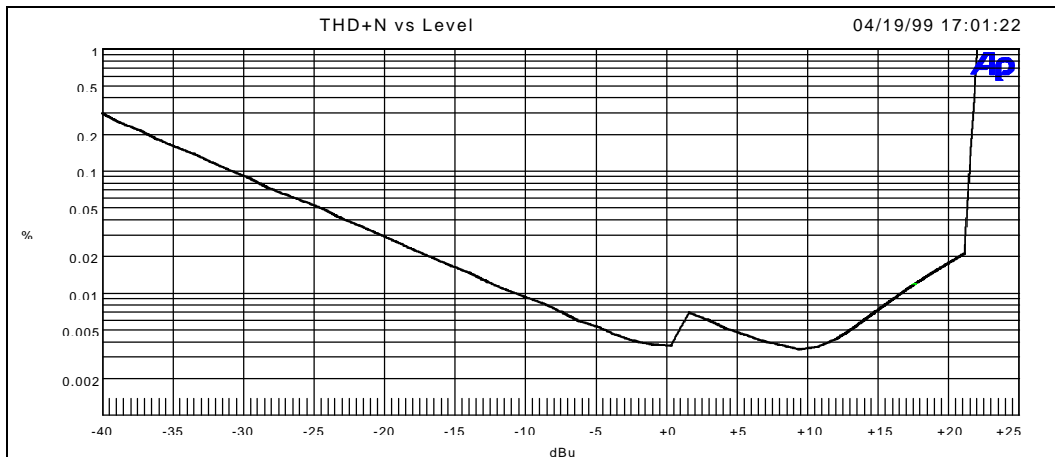
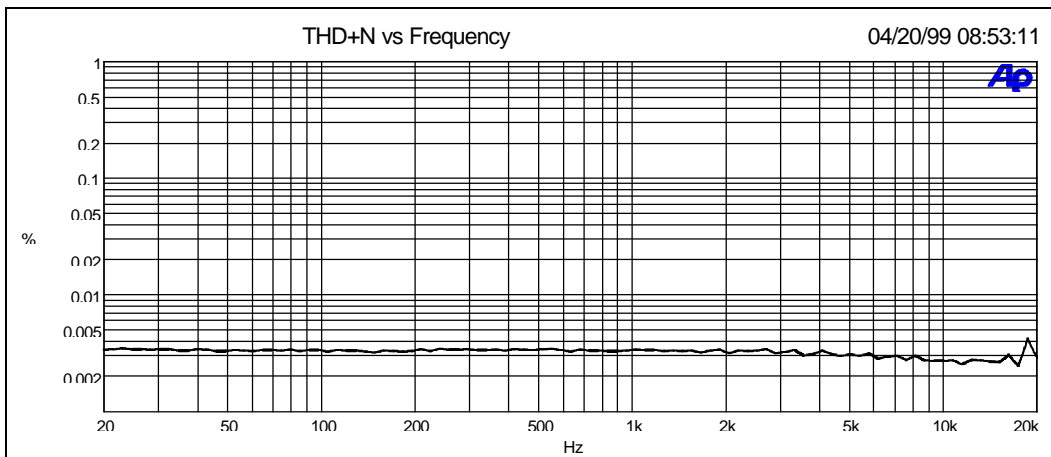

Figure 2 THD+N [%] as a function of the input level [dBu] [4] , f = 1 kHz
Figure 3 THD+N [%] as a function of the frequency [Hz] [4] , input level = +10 dBu
6.1 THD+N [4] fig. 2 , fig. 3 20 Hz ... 20 kHz < 0.01 % @ +10 dBu